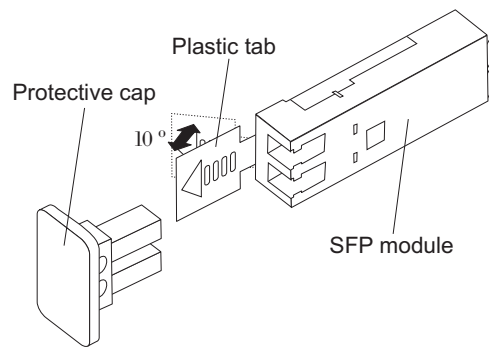

Figure 26. Unlocking the SFP module latch - plastic variety
- For SFP modules that contain plastic tabs, unlock the SFP module latch by pulling the plastic tab outward 10°, as shown in Figure 26.